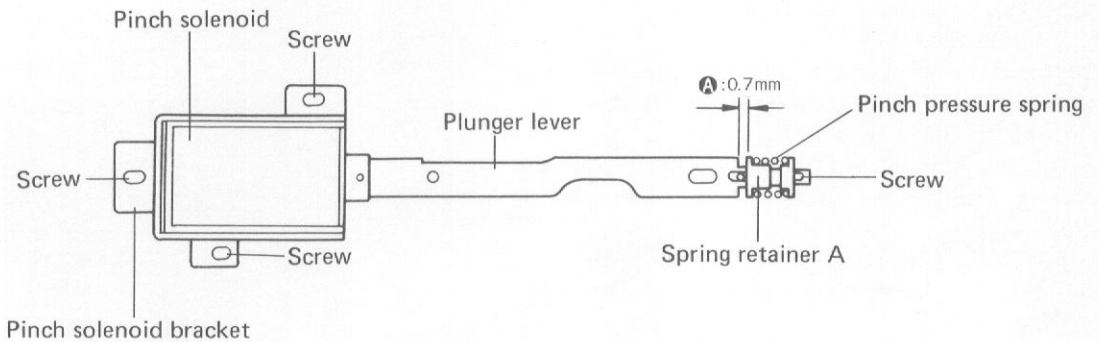

Fig. 27
1. Playback at a set tape speed of 19cm/s and confirm that A of the pinch pressure spring shown in Fig. 27 is within 0.7mm.